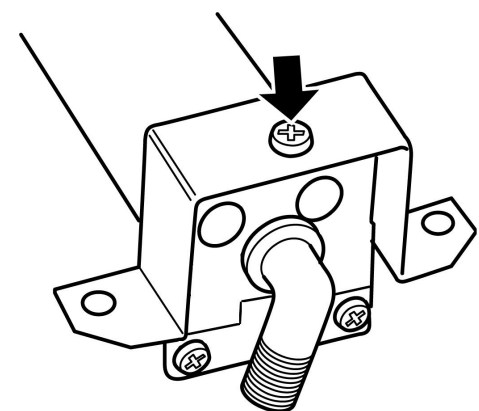

Figure 50. Main burner injector removal
(See figure 50).
2. Remove the burner clamping screw (See figure 50)